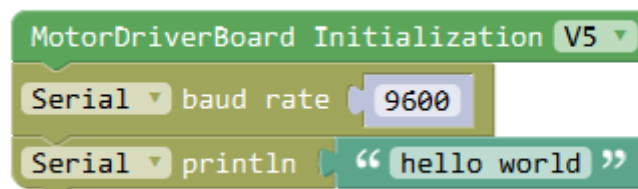

Figure 2-2-3
- 3) In the text module, drag the building block of "hello" to the right side of serial printing (auto wrap), and input "Hello word" as shown in figure 2-2-3.